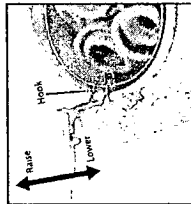

Figure 2
- Pour cooking oil into Oil Reservoir until it reaches between "MIN" and "MAX" marks inside reservoir. **DO NOT OVER OR UNDER FILL.** Place the Frying Basket back into Fryer in the upper position by hooking over oil reservoir. (See Figure 2)